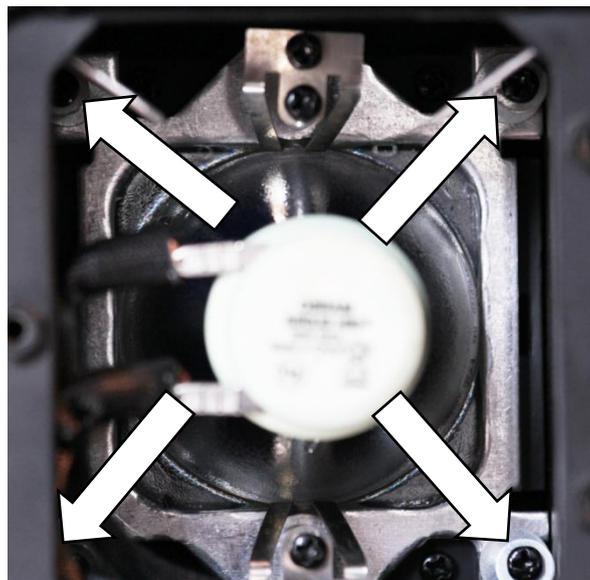

**Figure 5 - Lamp removed from the head of the BTX-TITAN**
- Remove the lamp from the head of the BTX-TITAN (Figure 5)